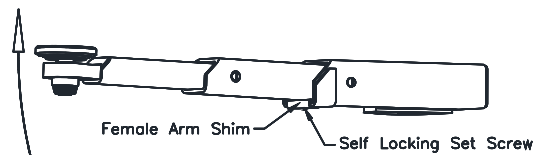

Fig. 20 – Arm Shim, 3-Stage
- 63) Extend the arm fully and lift up on the male portion, **Fig. 20**.